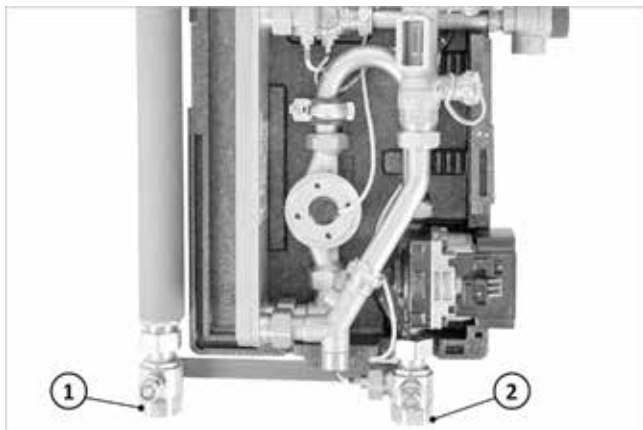

Fig. 9: Connecting the SolvisBen to the solar heat transfer station
5. Install the T-piece (2) between the corrugated pipe (3) on the solar return and the MEV connection group (1).
6. Connect the free outlet on the T-piece (2) with the return ball valve (→ fig. 9, 2) of the solar heat transfer station.